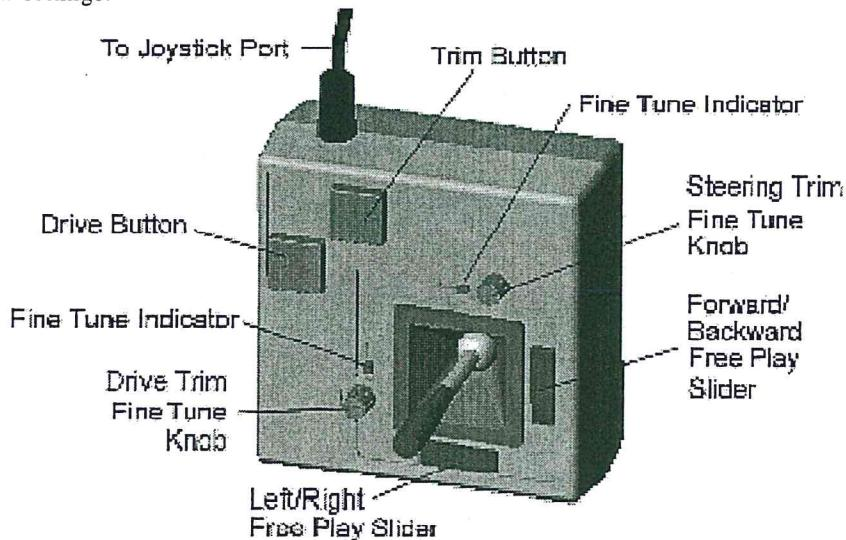

FIGURE 5 - 1. The Joystick Assembly
4. Initialize the joystick by "double clicking" the Trim button. See Figure 5 - 1, "The Joystick Assembly," on page 5 - 34 for the location of the joystick controls and "The Joystick" on page 5 - 32 for complete instructions on how to use the joystick.
The controls on the joystick adjust the fine-tune trim and free play for forward/backward motion and left/right motion. See Figure 5 - 1, "The Joystick Assembly," on page 5 - 34 for location of the controls.
2. With the joystick in the center, quickly "double-click" the trim button (see Figure 5 - 1, "The Joystick Assembly," on page 5 - 34). This will initialize the joystick software and center the joystick input.
5. Select the speed button on the rFLEX Joystick Drive screen and change the values by turning the rFLEX Controller knob. Set the speed to a low value (1) at first. Go slowly to get a feel for the precision of motion control, then set the speed to a higher number and drive a bit faster.